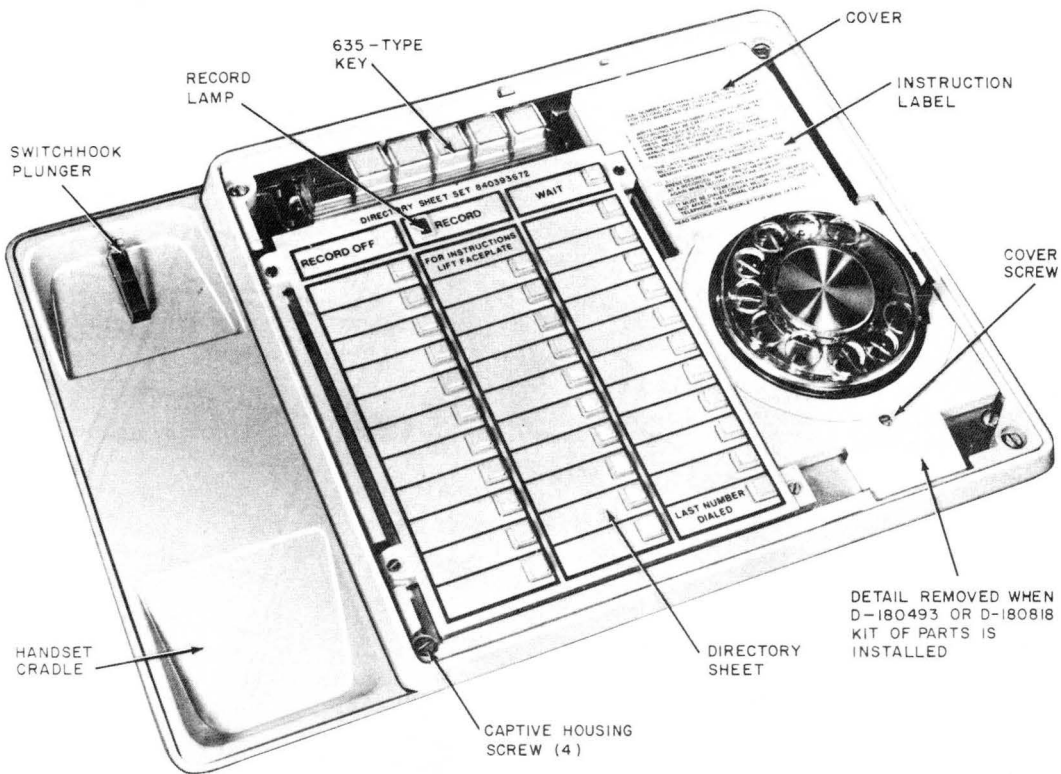

Fig. 2—872A1M Telephone Set—Faceplate and Handset Removed
2.06 Operating Features (Fig. 2).
- Line key (635BT5), 6-button key. Hold with five line pickup buttons which are convertible to nonlocking. An additional momentary contact (logic reset switch) is attached to the hold side of the key to reset the logic circuit anytime a key button is depressed.
3.05 The directory sheets (Fig. 2) fit over the buttons of the memory and are held in place by the faceplate. Additional sheets are available in directory sheet set, 840393672.